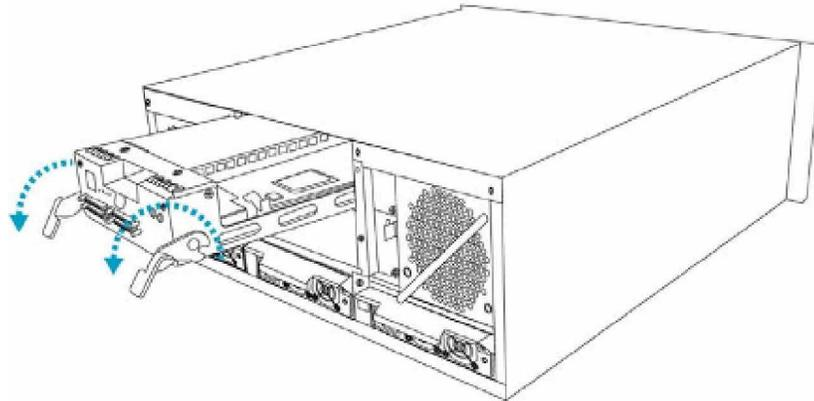

Figure 5-3: Removing the Controller Module
-  Step 6. Gently **press both of the ejector levers in a downward motion** at the same time to disconnect the controller from the back-end PCB. When the ejector levers are at their lowest positions, the controller module will automatically be eased out of the controller module bay in the subsystem. (See *Figure 5-3*)